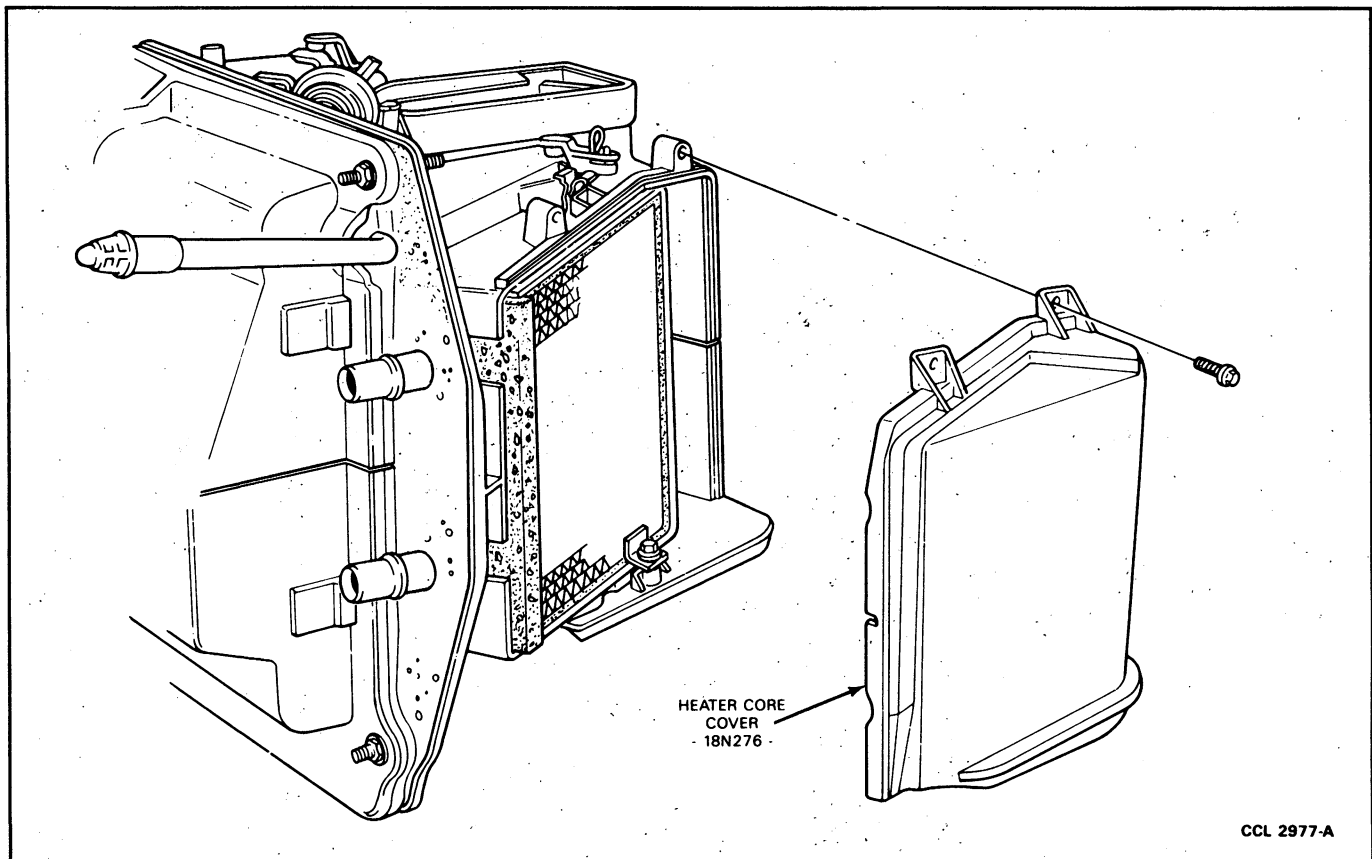

FIG. 8 Heater Core Cover Removal
- Remove four screws from heater core cover located on the LH side of the case underneath instrument panel (Fig. 8).